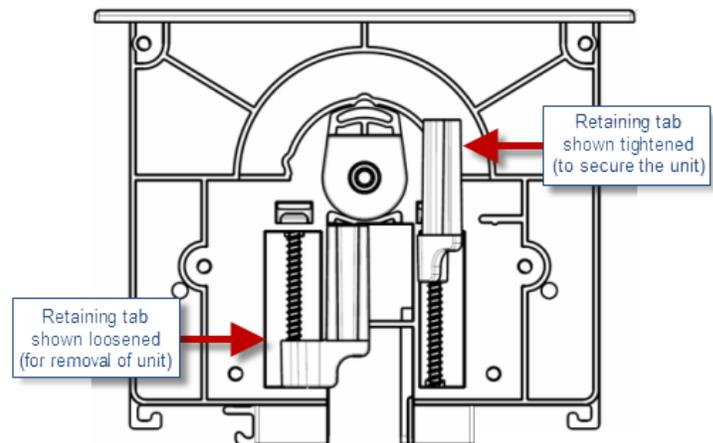

FIG. 3 HPX Base Assembly (shown mounted) - Mounting Screws Locations
FIG. 3 provides a cutaway view of the End Cap, showing the retaining tabs in both the loose position and the tightened (secure) position:
2. Tighten the four mounting screws (loosened in Step 1, see FIG. 3) located inside and at each end of the HPX base assembly, to rotate the retaining tabs into locking position under the mounting surface.